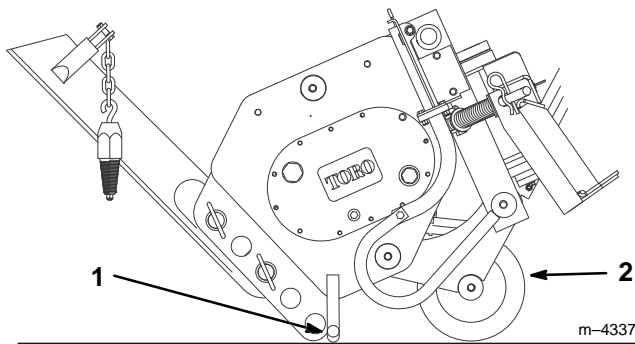

Figure 5
- Swing the blade up and secure it as illustrated in Figure 5.
- Tilt the plow forward and lower it to the ground or trailer, with the stand and coulter supporting the weight of the plow (Fig. 5).